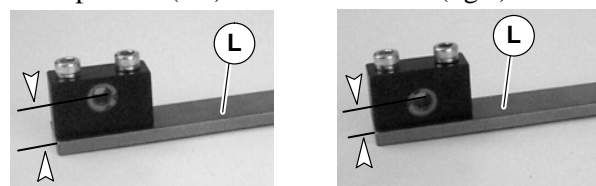

Figure 3
2. Check bearing support assembly (L of Figure 3) setup: 2100 (left) and 4100 or 6100 (right).